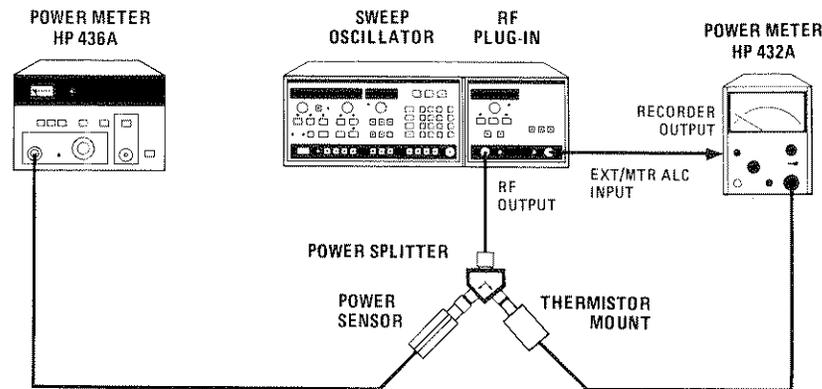

Figure 5-33. Power Meter Leveling Adjustment Setup
1. Connect the equipment as shown in Figure 5-33. On the 8350A, press **INSTR**, **PRESET**, **CW** and select a frequency at midband. Set the RF power level to -2 dBm, as indicated on the 83595A POWER display. Allow the equipment to warm up for one hour.